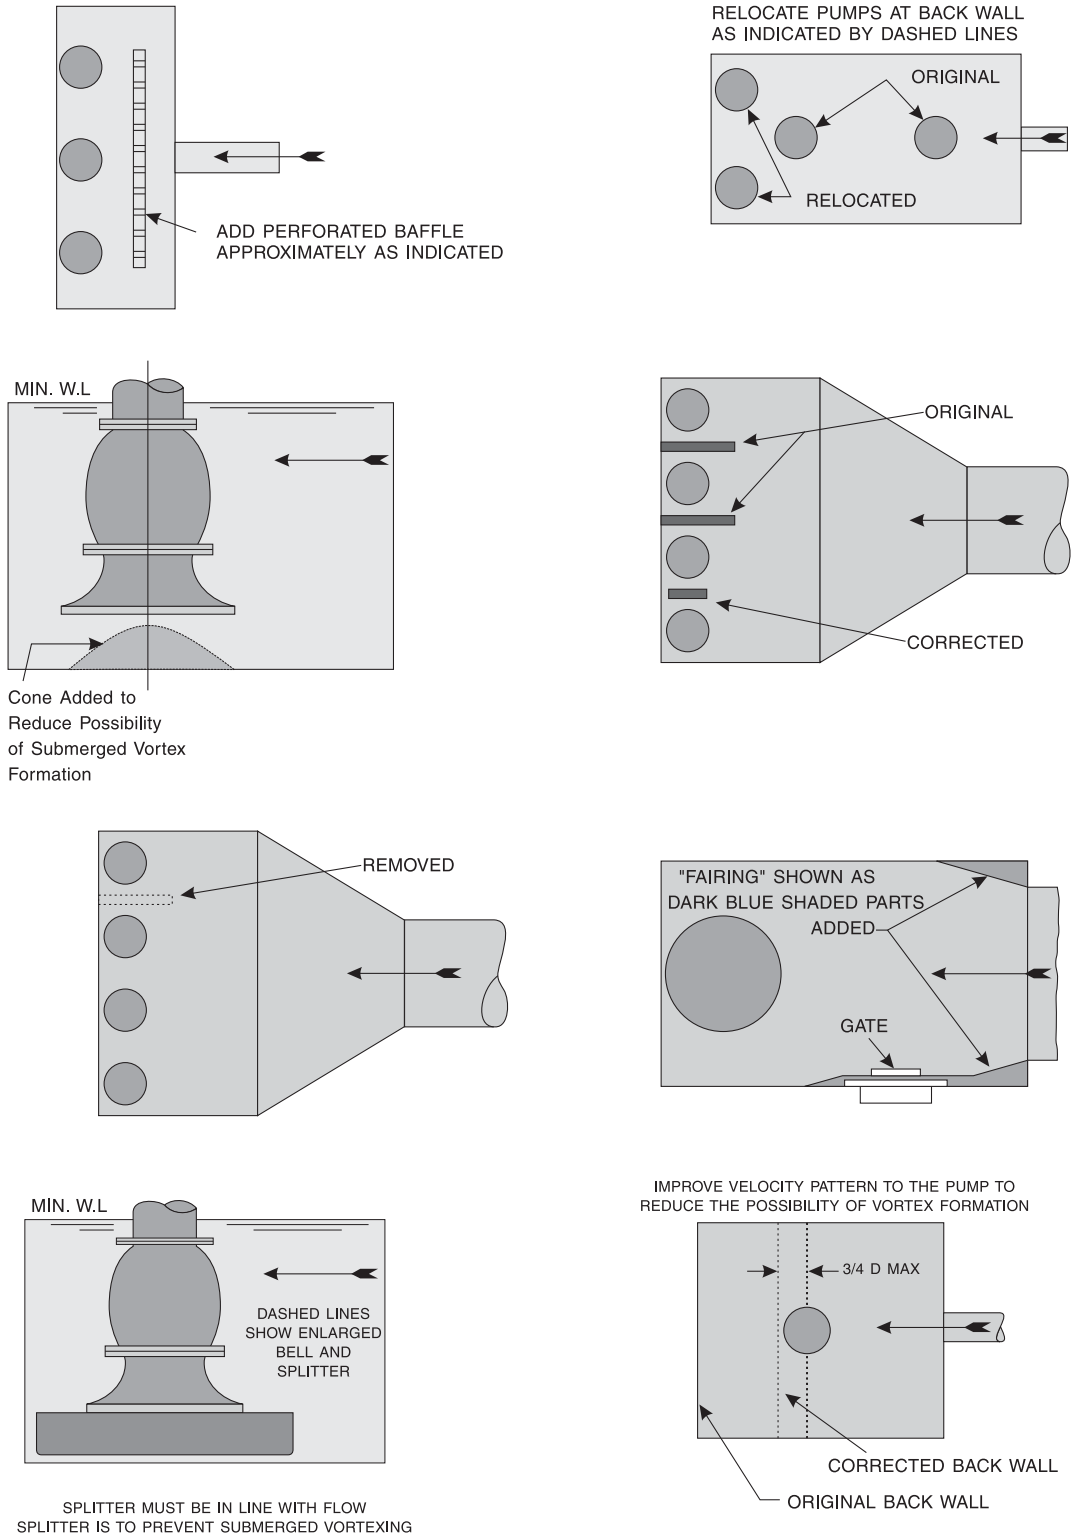

FIG 11.1 REMEDIAL MEASURES FOR VORTEX-FREE OPERATION IN EXISTING SUMPS
A cone as shown in the figure 11.1 (C) or splitter as shown in figure 11.1 (G) shall be provided underneath bellmouth.